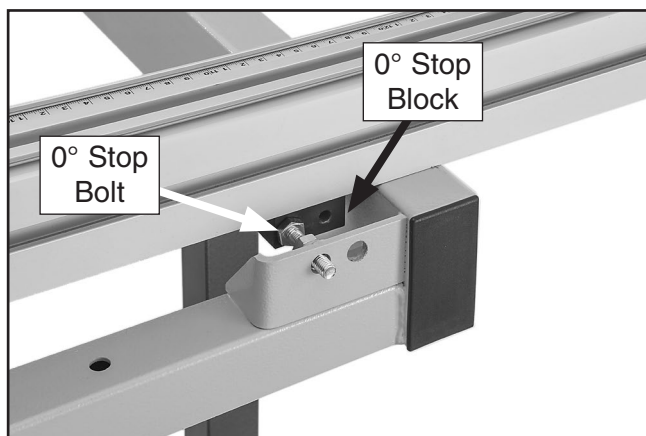

Figure 102. Stop block against 0° stop bolt.
1. Position crosscut fence on crosscut table according to cutting operation (see **Setting Up Crosscut Fence** on **Page 49**) and rotate crosscut fence until 0° stop block touches 0° stop bolt (see **Figure 102**).